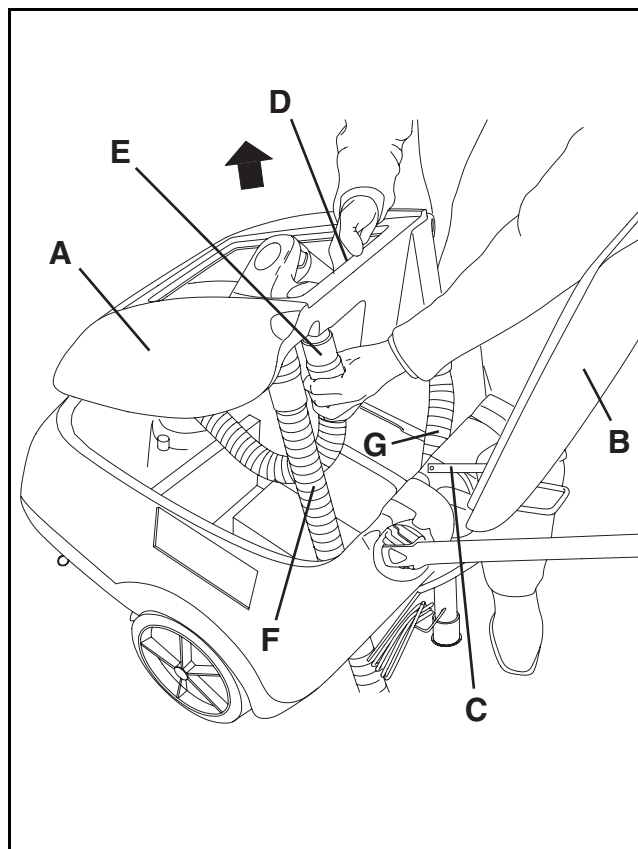

Figure 23
To check the batteries, or to perform other operations, it may be necessary to remove the recovery tank (A, Fig. 23) according to the following procedure:
1. Empty the tank (A, Fig. 23) according to the procedure shown in the relevant paragraph.
6. Open the cover (B, Fig. 23) and apply the cover stand (C).
7. Grasp the recovery tank (A, Fig. 23) in the area (D) and slightly lift it, as shown in the figure.
8. Disconnect the vacuum hose (E, Fig. 23) from the tank, then remove the tank (A) with the hoses (F) and (G).
2. Remove the recovery tank (A, Fig. 23) according to the procedure shown in the previous paragraph, then disconnect the battery negative terminals.
3. Reinstall the recovery tank (A, Fig. 23).